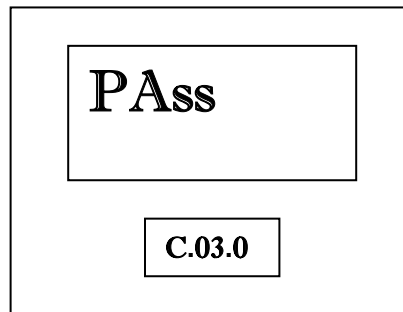

Figure 3
1. Press the 3 button and then the **MODE** button on the keypad. The display shown in Figure 3 appears.